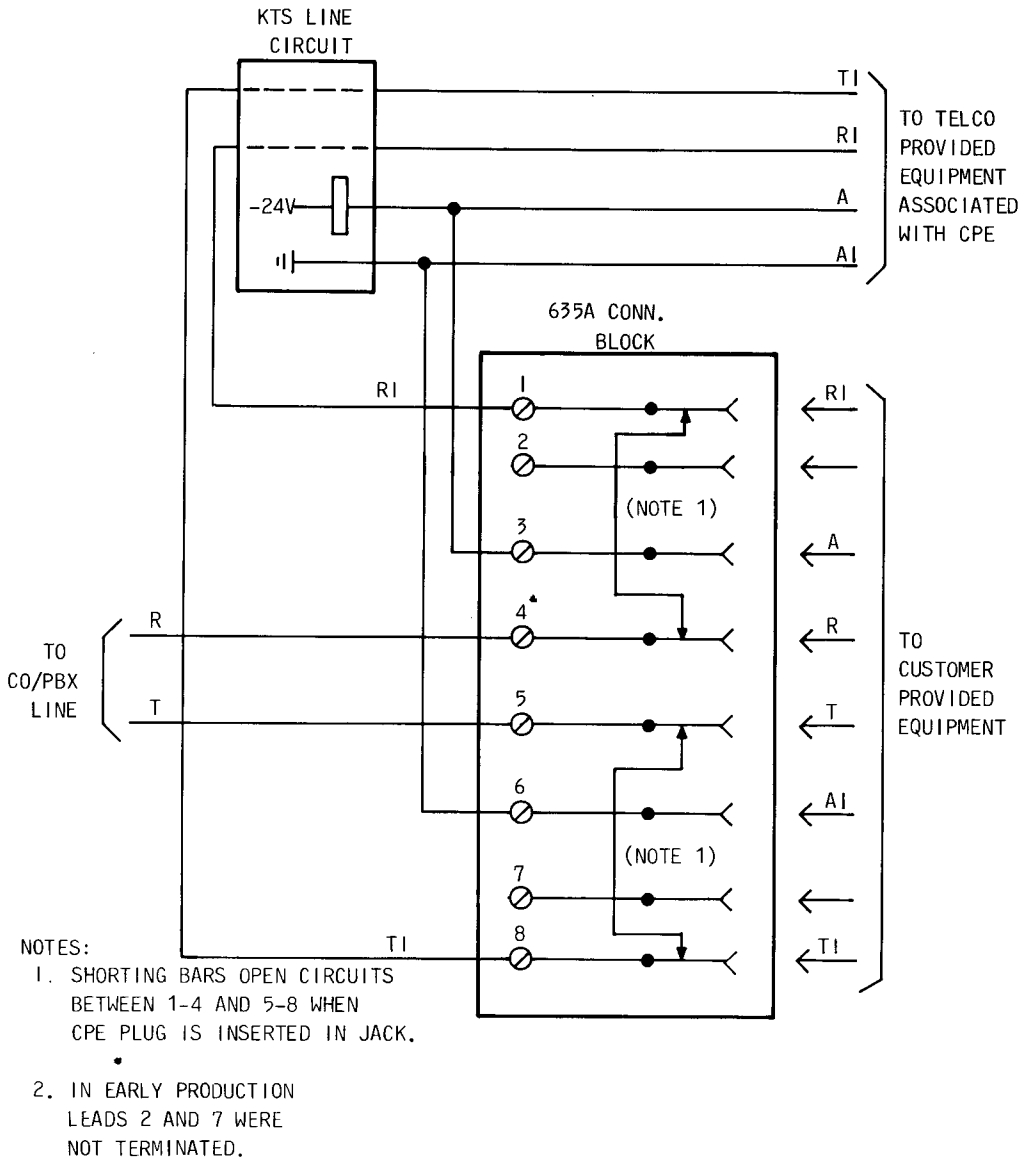

Fig. 3—Connections for USOC RJ33X
**2.03 USOC RJ33X:** Provides a series connection of the tip and ring of a KTS line ahead of the line circuit because the registered equipment requires CO/PBX ringing and a bridged connection of A and A1 from behind the line circuit (Fig. 3). Tip and ring are the only leads opened when the CPE plug is inserted in the 635A connecting block. Typical usage would be for customer-provided automatic dialers or call restrictors. Access to the required leads can be anywhere leads are available, but tip and ring must be ahead of the line circuit.